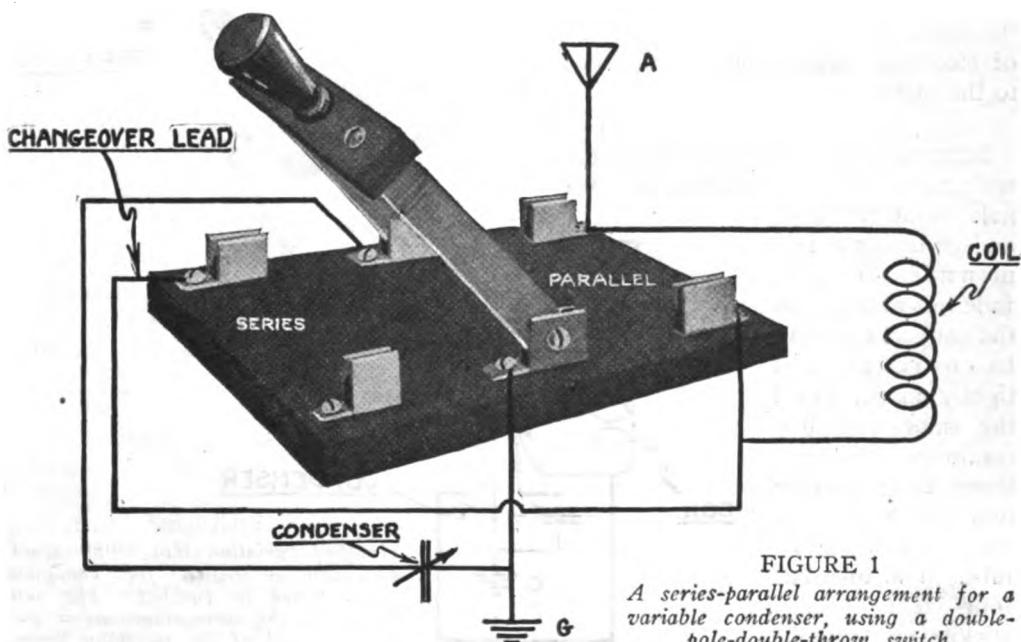

FIGURE 1
For the amateur who has his apparatus mounted on a board, a double pole, double throw knife switch will be suitable. It should be connected as shown in Figure 1, with the primary coil across the two contacts at one end of the switch, the condenser connected across the switch blades, and the antenna and ground leads connected on opposite sides of the switch, as shown in the diagram. The change-over lead should run from the bottom right-hand contact to the top left-hand contact. When the switch is thrown to the right the condenser is connected in parallel to the antenna circuit (tuning to the higher wavelengths); thrown to the left it is connected in series, when the lower wavelengths will be more easily tuned in.
*The same circuit as shown in Figure 1, except that a rotary panel switch is used.*